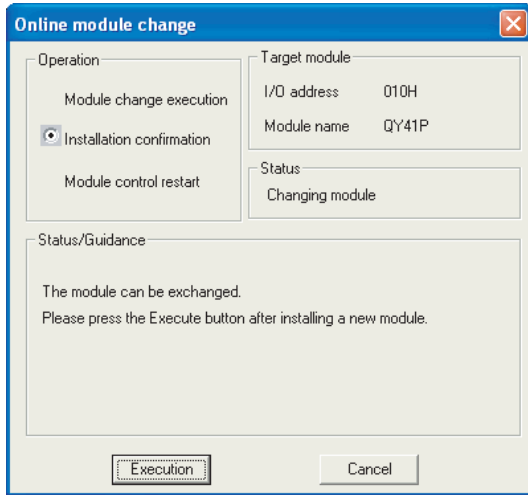

Figure 12.31 Online module change screen
(Table12.6 shows the communication status with the target module for online module change when the following screen (refer to Figure 12.31) is displayed.)
- When connecting the new control system and clicking the Execution button, the message shown in Figure 12.31 may be shown. In this case, select [Yes] and continue operation for the online module change.